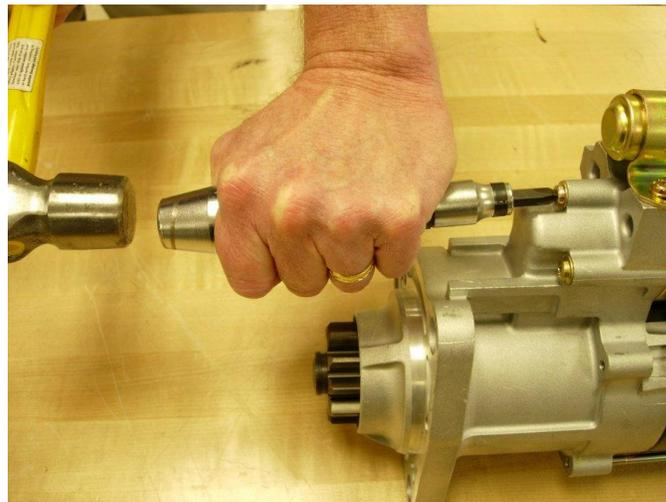

Figure 2: Impact Driver
- 3) Remove three solenoid screws connecting solenoid to drive housing. This step is most easily performed using an impact driver as shown in Figure 2